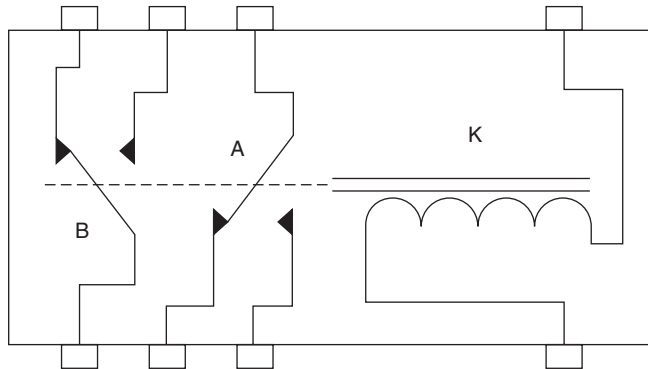

Figure 7-2 Heterogeneous relay—dissimilar parts in a single package.
Figure 7-2 shows an example of a heterogeneous package. This package has three parts, which can be placed independently on the schematic: one relay coil (K) and two sets of